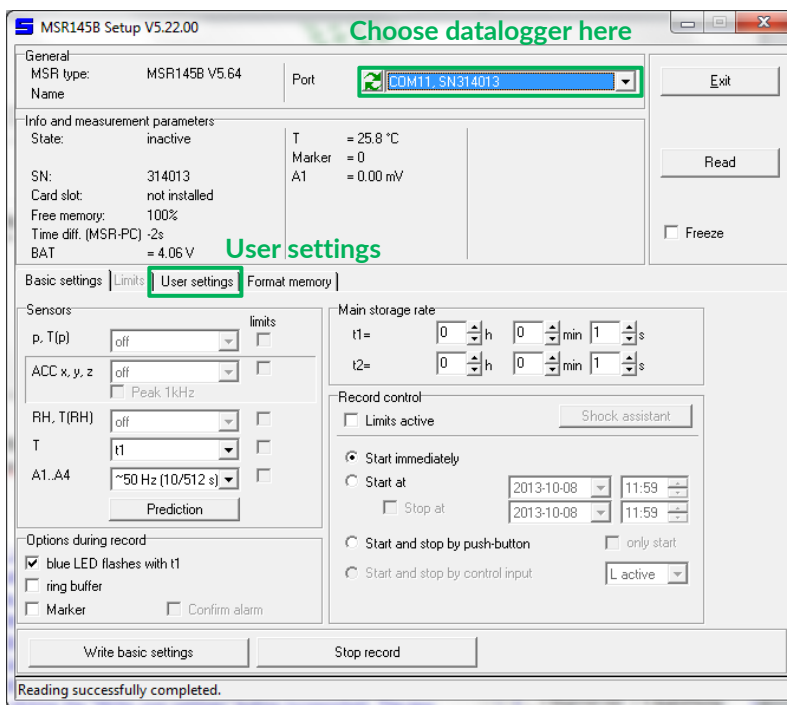
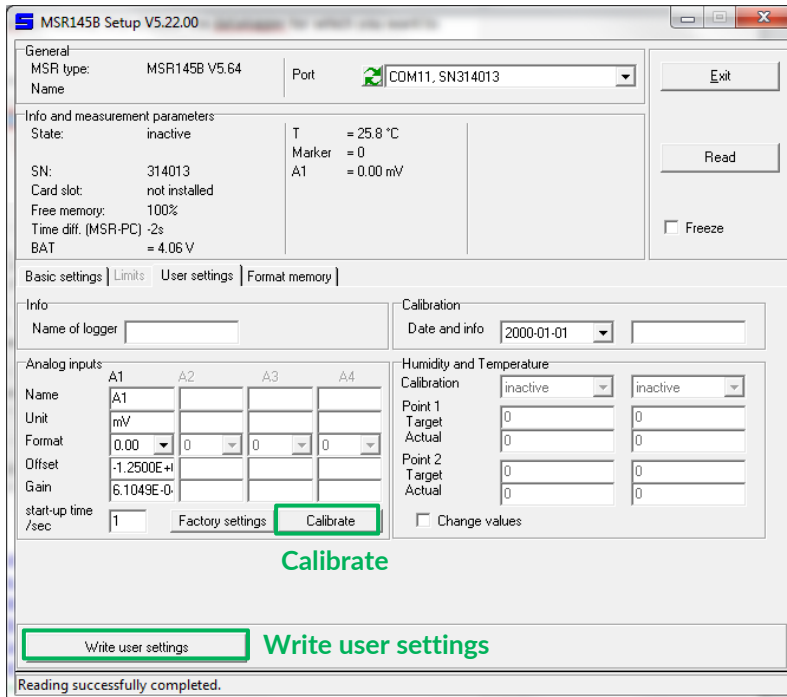

Figure 3: Setup dialog
Figure 4: User settings dialog
6. Click the **Calibrate** button in the **Analog inputs** box shown in Figure 3. The window shown in Figure 4 will pop up.
Table 1 lists the values that should be entered into the window shown in Figure 4. The values depending on the data logger model you are using.
- a. In the fields of the **Low point** (see Figure 4), enter the following values:
12. Activate the new settings by clicking the **Write user settings** button (see Figure 3). The new settings are now written to the data logger and will be applied to all acquired data.